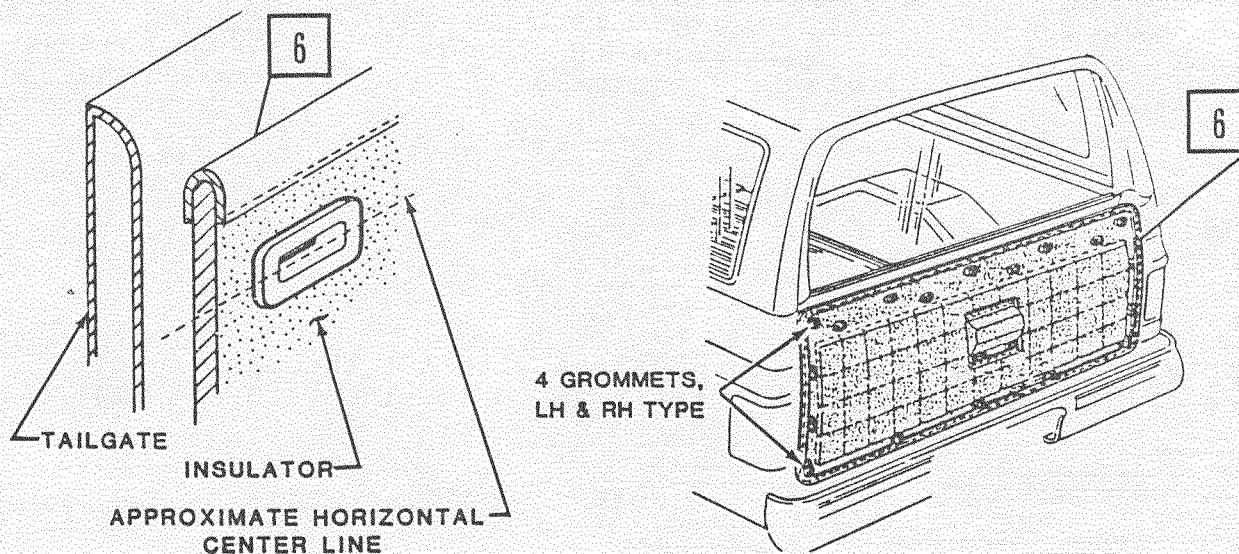

Figure 5.
21. Using side grommets (4 on each side) (Figure 5.) on insulator, mark center of each grommet.